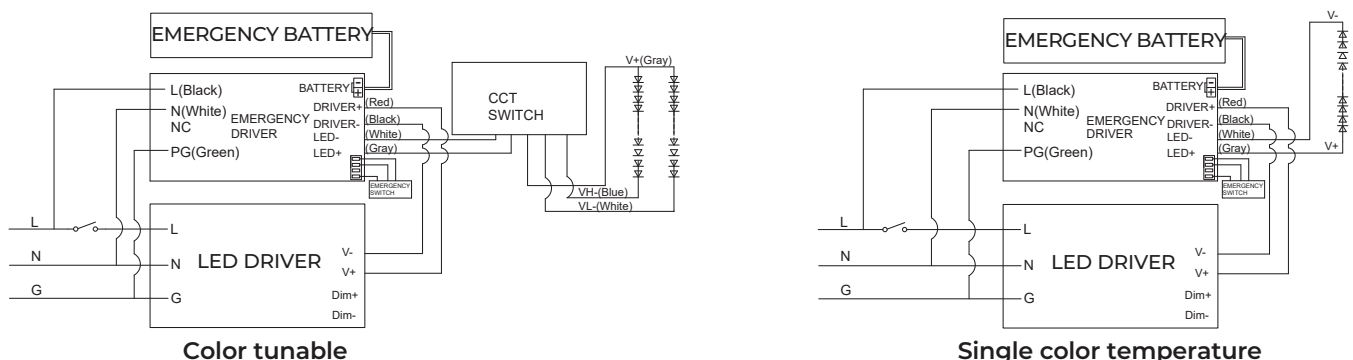

figure 2
**STEP 2)** For wiring, please refer to the schematic diagram of wiring instructions (as shown in the figure 2).